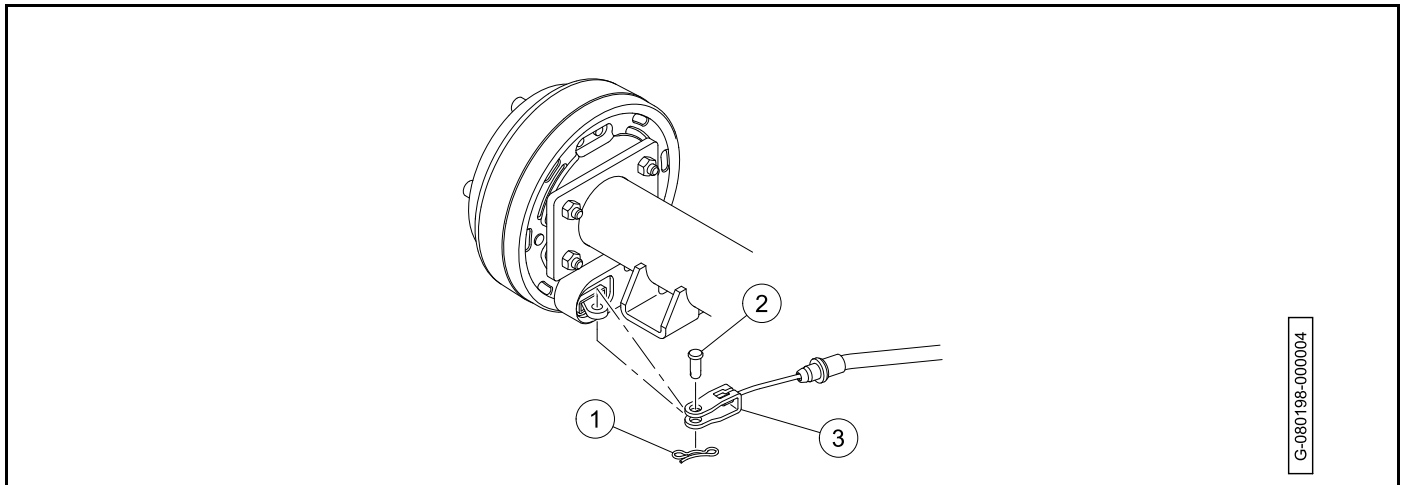

Figure 6-20
9. Loosen the turnbuckle (3) to release tension on the bell crank.
12. Remove and discard the bow tie pin (1) (**Figure 6-20**).